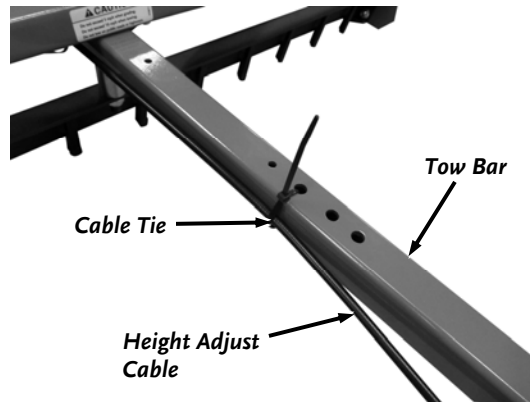

Figure 26
33. Secure the Cable to the Tow Bar using the Cable Tie (**Figure 26**).